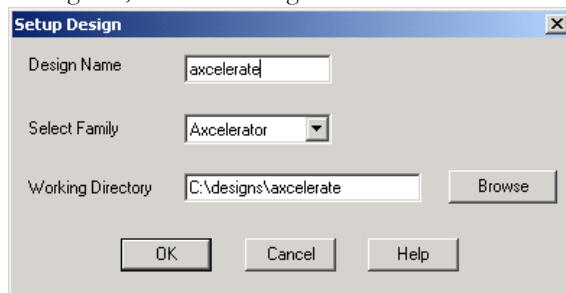

Figure 2-31. Setup Design Dialog Box
1. **In the Tools menu, click *Setup Design*.** This displays the Setup Design dialog box, as shown in Figure 2-31..